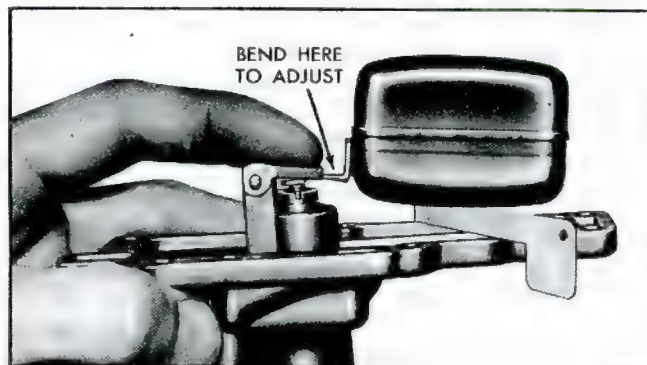

Fig. 31—Adjusting Float Level
- Invert cover and measure the distance between cover gasket surface and float at center of float (fig. 31). This FLOAT LEVEL dimension should be $5/8"$ or use Tool J-21056.